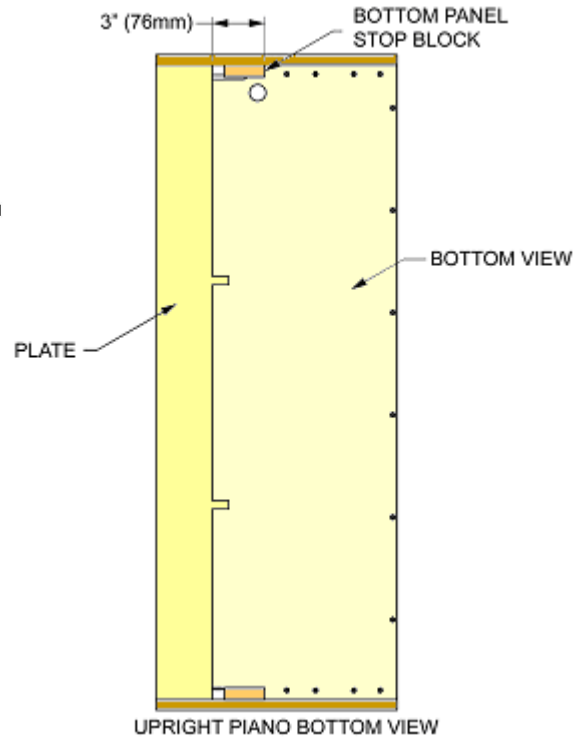

Figure 2
- B. Measure the bottom side of the keybed, from the inside edge of the lower panel (kick board) towards the plate. (See Fig. 2) If you measure 3” (76mm) of keybed, the system will fit.